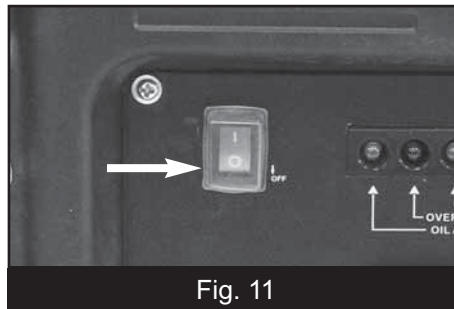

Fig. 11
2. Switch off the engine by putting the engine switch in the OFF position (Fig.11).